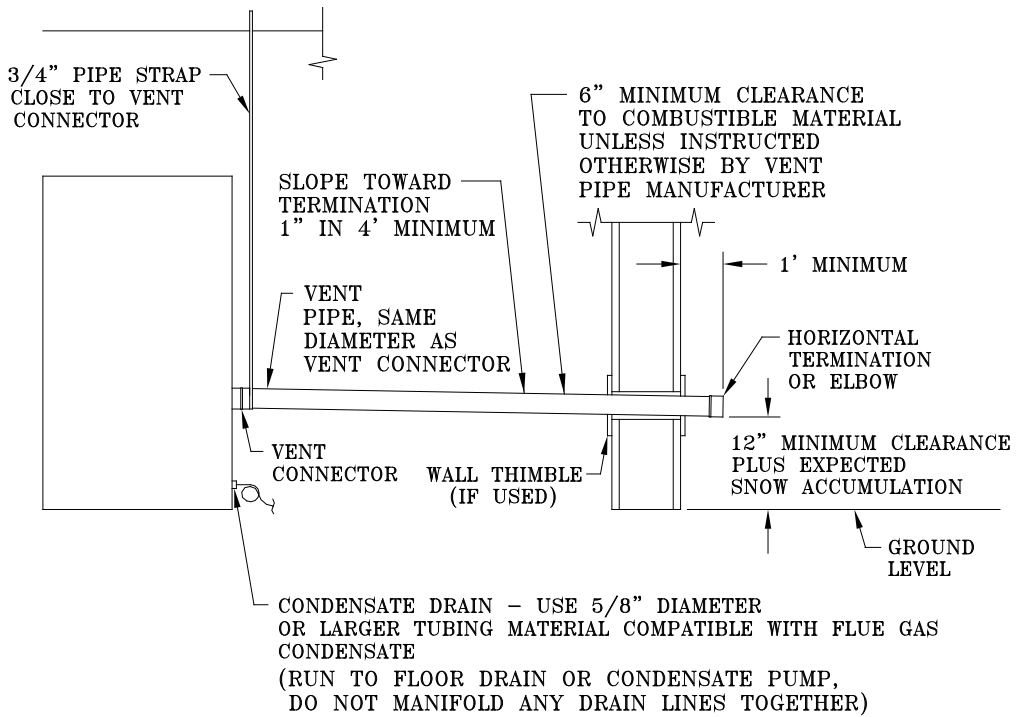

Figure 2: Sidewall Pressurized Venting
- e. See Figures 2, 3 and 4 for examples of positive pressure venting arrangements.